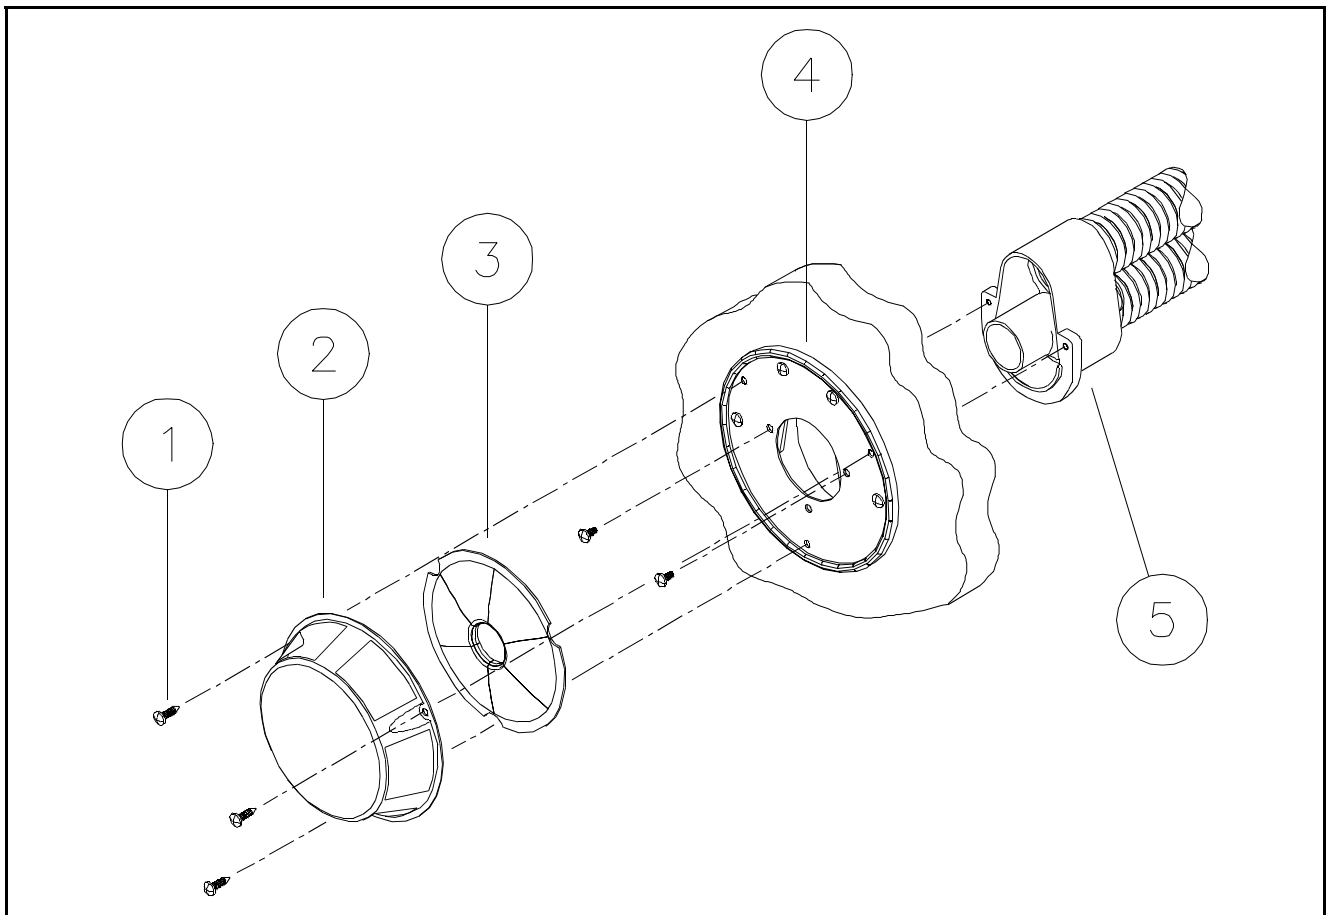

Figure 3 - Vent Terminal Housing
12. Remove the three (3) screws securing the vent cover to the vehicle's exterior surface. See Figure 3.
13. Remove the two (2) screws securing the inner disk to the vent terminal housing. See Figure 3.